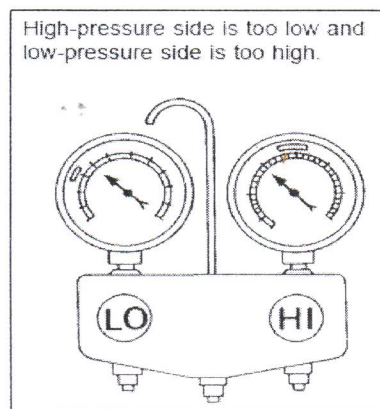

Figure 1
- (a) The reading of a manifold gauge when connected to the refrigeration system is shown in figure 1 where the pressure on low pressure side is too high and it is too low on high pressure side. From the above reading, explain the possible causes **AND** give the possible corrective action.